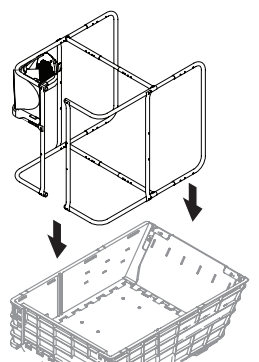

Figure 11
1. Place assembled frame into cart with the bag vent (731-12351B) in the right upper corner facing the mower. See Figure 11.